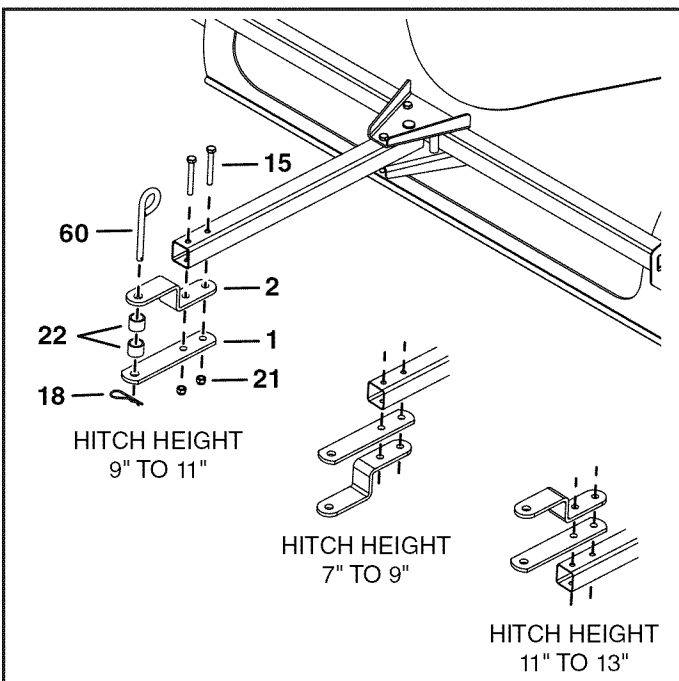

FIGURE 6
STEP 6: (SEE FIGURE 6)
- Attach the bent hitch bracket (2) and straight hitch bracket (1) to the drawbar using two 5/16" x 2-1/2" hex bolts (15) and 5/16" nylock nuts (21).
- Assemble the hitch pin (60) and two 3/4" spacers (22) to the hitch brackets. Secure them in place with a large hairpin cotter (18).
3. Attach the sweeper hitch to the tractor hitch, arranging the hitch brackets according to the drawbar height of your tractor as shown in figure 20 below and in figure 6 on page 6.